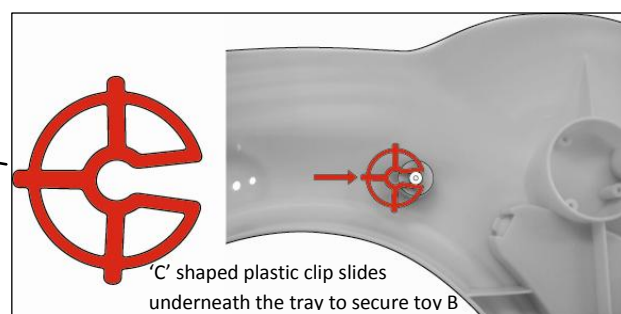

Figure 13
- Place the 'C' shaped clip at the end of Toy B to secure it in its designated hole, as per **Figure 13**.